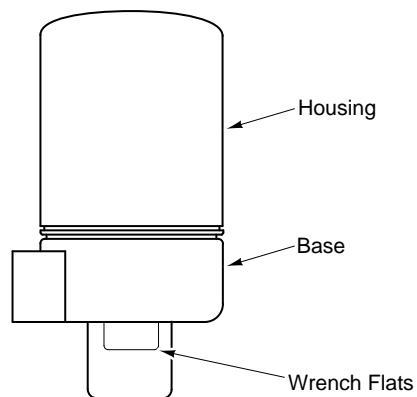

Figure-4 Housing and Base Location.
**Caution:** Do not twist or exert any force on the actuator housing during installation. Either turn the base by hand or, if necessary, use a 1-5/8" open-ended wrench (TOOL-37) on the flats provided on the actuator base or the valve body mounting nut. Refer to Figure-4 .
- Do not twist or exert any force on the actuator housing during installation. Either turn the base by hand or, if necessary, use a 1-5/8" open-ended wrench (TOOL-37) on the flats provided on the actuator base, or on the valve body mounting nut. (Refer to Figure-4 )